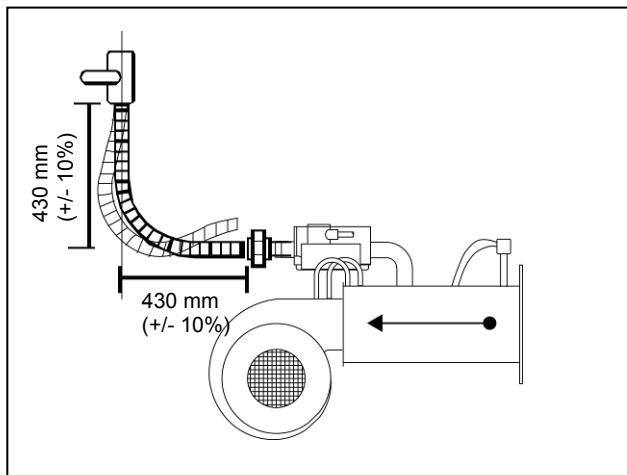

Fig 20: Stand connection 90° bend
- ⇒ Mount only a flexible hose with 90° bend or with 2 x 90° elbow with 180° bend according to fig. 20, 21 and 22.